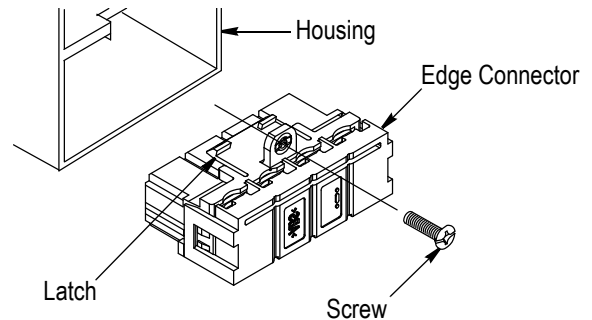

Figure 9
2. Insert a new card edge connector into the back of the housing until the latch is secure, then install the screw. Refer to Figure 9.